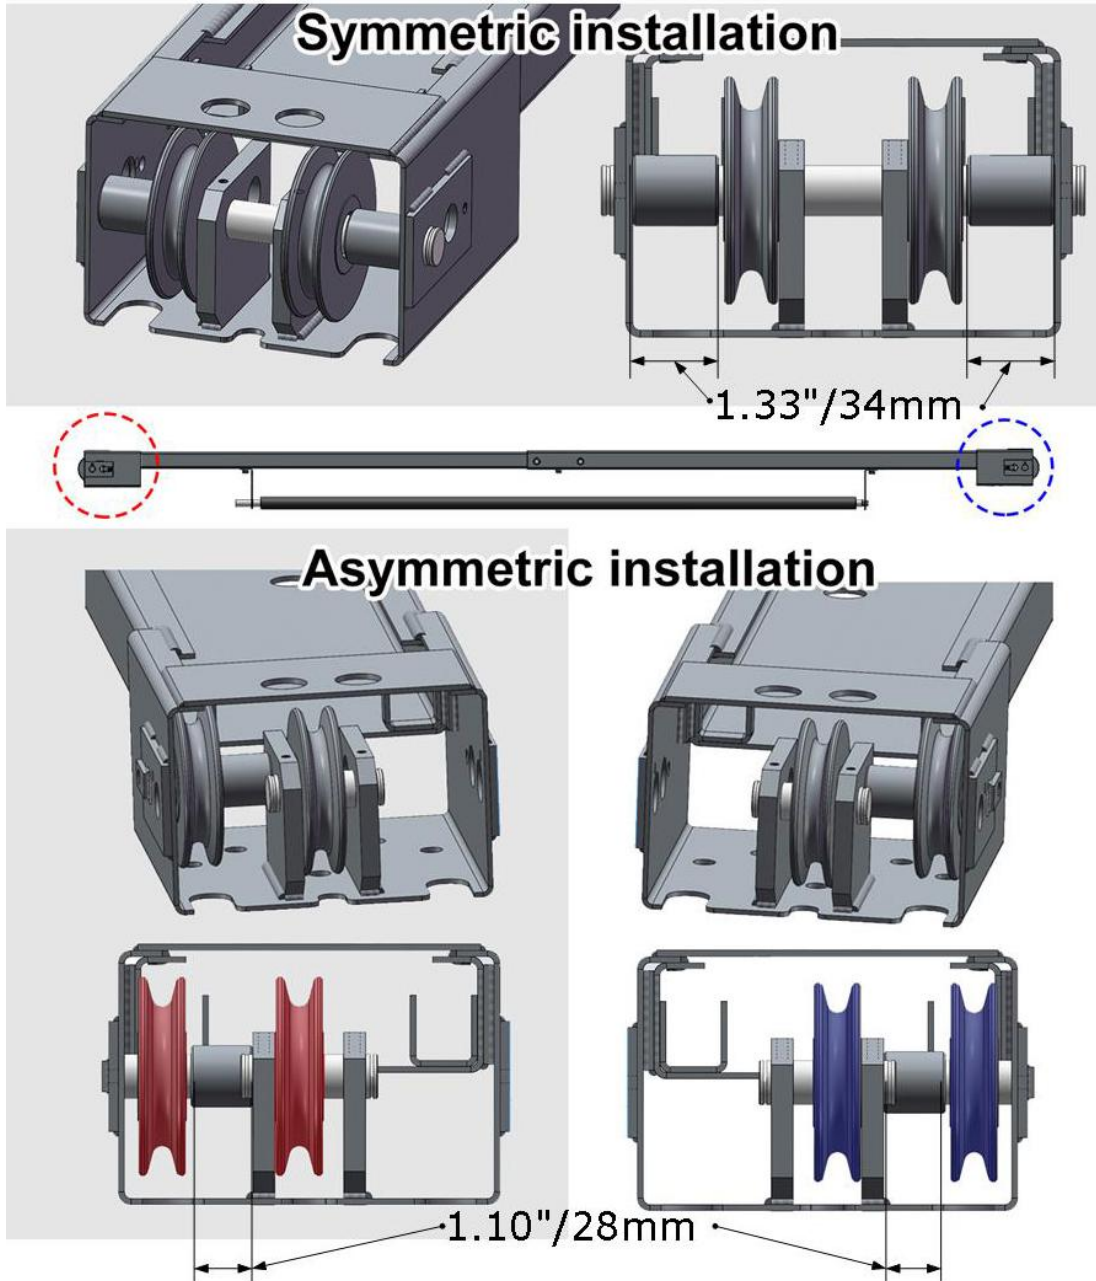

Fig 5 Cable Pulley Installation Reference
2. Install the overhead beam cable pulley (Fig 5)